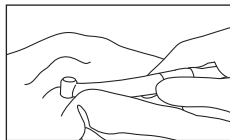

Fig. 8
- 3) Wipe the exterior of the handpiece clean using a cloth moistened with disinfectant or ethanol with a concentration of 60-90%. (Fig. 8)